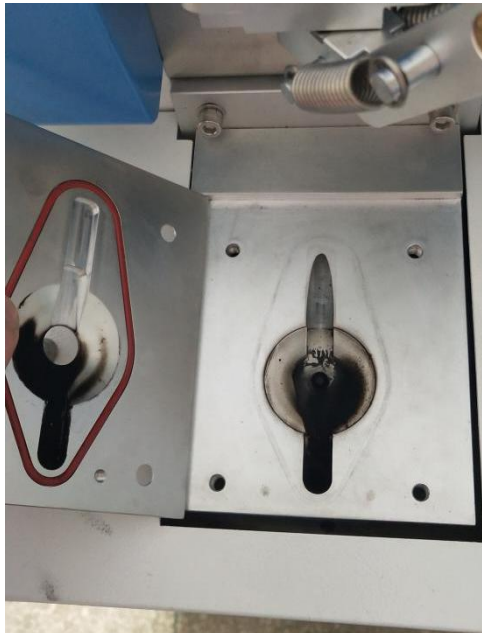

Figure 6-2 Removing the sparking panel and cleaning it
Step 2 Remove the sparking panel and pay attention to the sealing ring on the panel and wipe it clean, as shown in Figure 6-2: